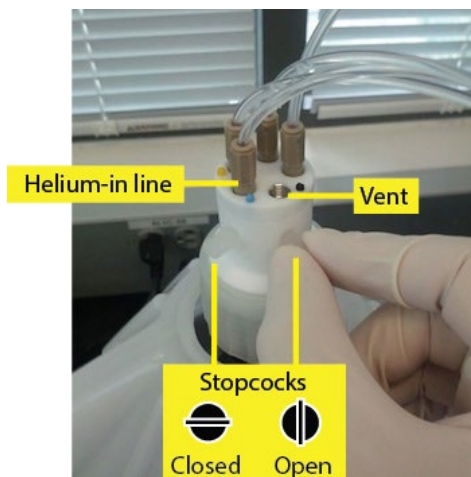

Figure 13. Venting the helium (or argon).
2. Vent the noble gas by closing the stopcock on the noble gas input line and opening the vent stopcock (Figure 13).